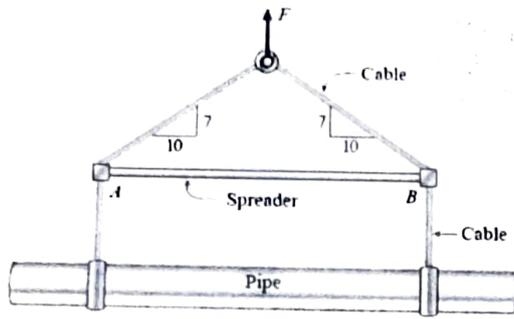

Fig.Q1
- Q1. The 60-mm-diameter shaft shown in fig. Q1 is made of 6061-T6 aluminum having an allowable shear stress of 80MPa. Determine [10M]
Q1. The hoisting arrangement for lifting a large pipe is shown in the Fig.Q1. The spreader is of rectangular cross-section (width=50mm, Height=80mm). Its length is 3 m and its modulus of elasticity is 200 GPa. Based upon a factor of safety of 2 with respect to Euler buckling of the spreader, what is the maximum weight of pipe that can be lifted? (Assume pinned conditions at the ends of the spreader.) [15M]